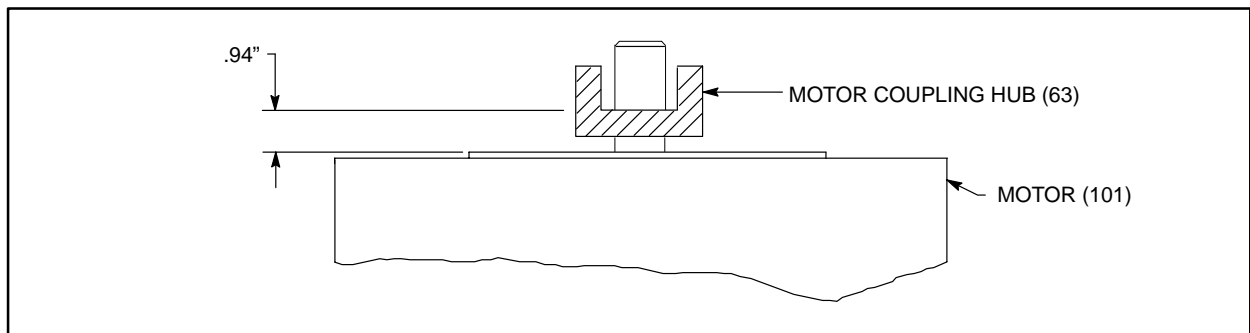

Figure 4 - Motor Coupling Hub Installation
- a . Install gasket (22) around the bearing housing (36).
- b . Assemble mixer coupling hub (64) to the quill shaft (35), until it seats against the upper retaining ring (59). Tighten the mixer hub set screw to 5 ft-lbs. Install the insert (65) on the mixer hub.
- c . With the motor upside down on a workbench, assemble the motor coupling hub (63) to the motor shaft as shown in Figure 4. Align motor coupling hub keyway 180° opposite motor output shaft keyway. Motor coupling hub set screw is tightened against motor output shaft (key is not used in the assembly). Tighten the motor hub set screw to 5 ft-lbs.